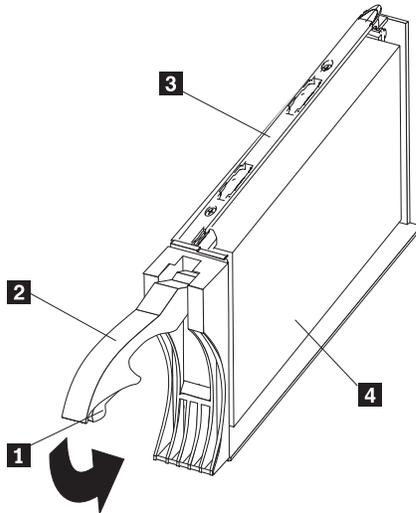

Figure 90. Drive latch on a hot-swap drive
- a. Press on the inside of the bottom of the tray handle to release the blue latch **1**. See Figure 90 on page 124.